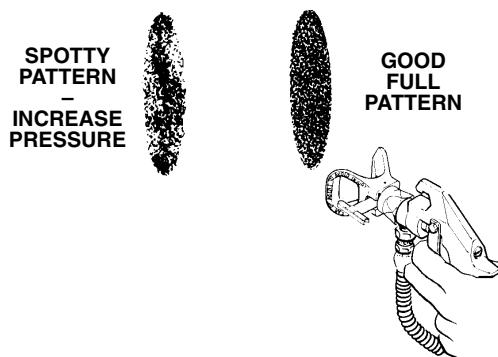

Fig 4
3. **Adjusting the spray pattern** (Refer to Fig 4. )